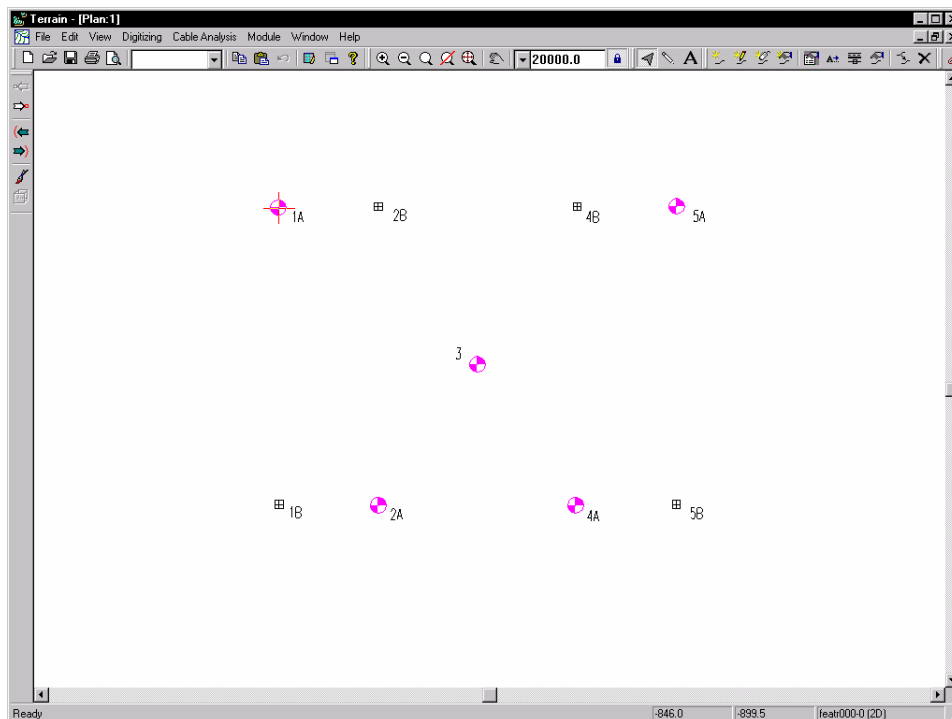

Figure 3.1: Drawing.TER
1. File|Open. Select **\Tutorial\Terrain\Terrain Cad\drawing.TER**. Press Open. The file shown in Figure 3.1 will appear.